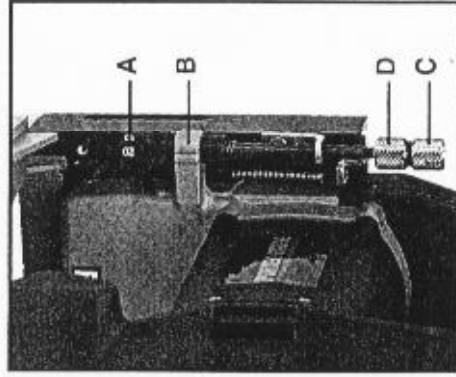

Fig. 2
A "quick set" adjusting knob (A) Fig. 2, is provided for changing depth of groove required for the three biscuit sizes. The biscuit sizes 0, 10, and 20 are stamped on the flats at the end of this knob. Adjust depth of groove as follows:
- Pull adjusting knob forward and rotate until desired biscuit size is in line with indicating mark (B) Fig. 2.
1. Hold knob (D) Fig. 2, and turn knob (C) Fig. 2, counterclockwise to unlock.
2. Turn knob (D) Fig. 2, clockwise.
3. Hold knob (D) Fig. 2, at desired position and turn knob (C) Fig. 2, clockwise to lock.
2. Turn knob (D) Fig. 2, counterclockwise.